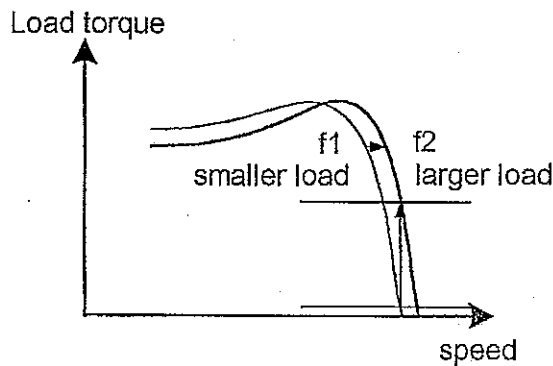

Fig. 18. Output frequency with slip compensation.
- (3) Motor Rated Current (Cn-09)
(4) Motor No-Load Current (Cn-10)
- The slip compensation is enabled when the output current is greater than motor no-load current (Cn-10). The output frequency will shift from f1 to f2 (>f1) for the positive change of load torque. (See Fig. 18)